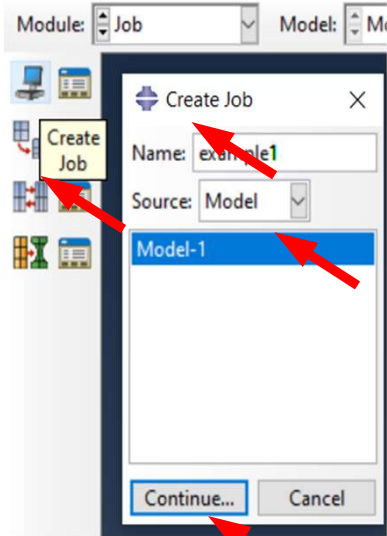

Figure 1
- In Create Job window (Fig.1), create a name of this job, click “Continue”